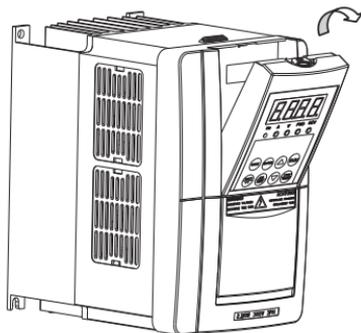

Fig. 3-8 Mounting Demonstration of the operator panel and connecting wire of the inverter Model A
Step 1. Hand down and press down the notch of the upper side of the keypads and buckle up. pull down the wire between the keypad and control board . Then remove the keypad. (as shown in Figure 3-8)